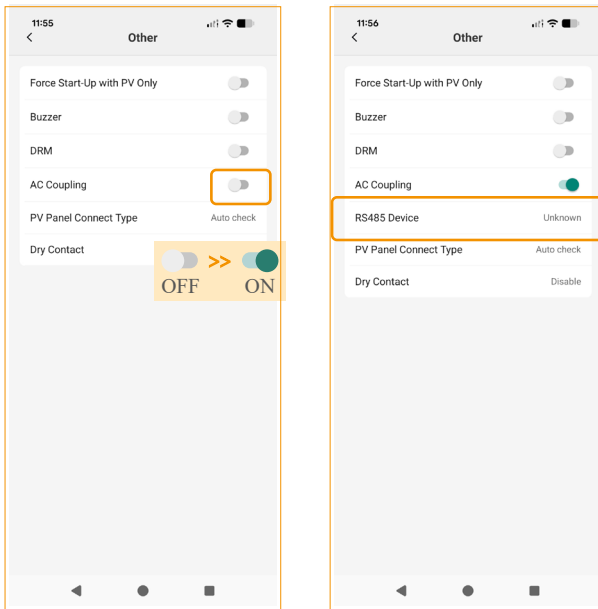

Figure 21. Left - (a) - Enable. Right - (b) Set meter 2.
Step 2. Tap *Setting* > *Inverter* > *Other* to enable AC coupling function and set meter 2. See Figure 21, (a)-(b).